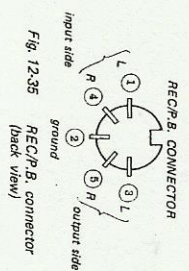

Fig. 12-35 REC/P.B. connector (back view)
- (1) Deliver a 1 KHz signal of -33 dB (17.5 mV) to terminal No. ① (L-CH) or ② (R-CH) of the rec./p.b. connector shown in Fig. 12-35.